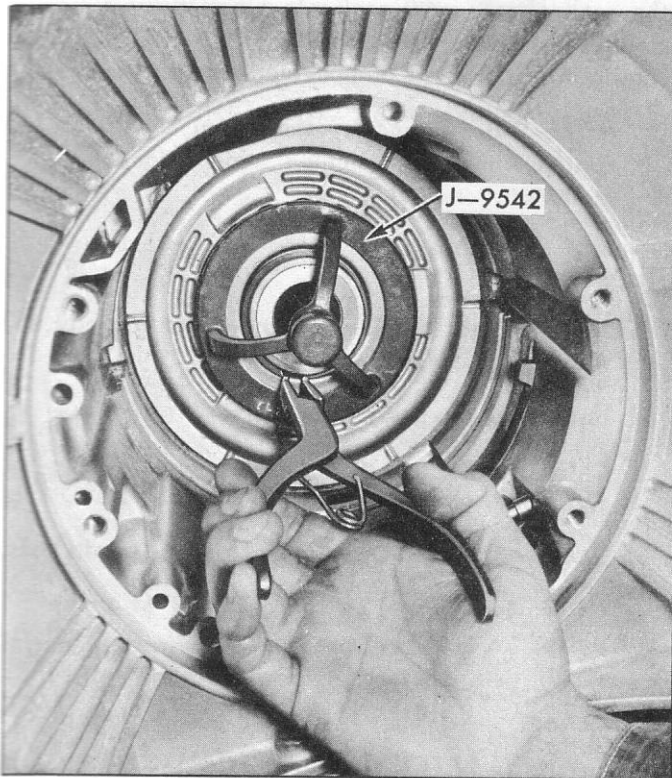

Fig. 15—Removing Rear Piston Spring Retainer Snap Ring
18. Install Tool J-9542 through the rear bore of the case with the flat plate on the rear face of the case and turn down the wing nut to compress the rear piston spring retainer and springs, then, remove the snap ring (fig. 15). Tool J-8039 may be used to remove the snap ring if desired.